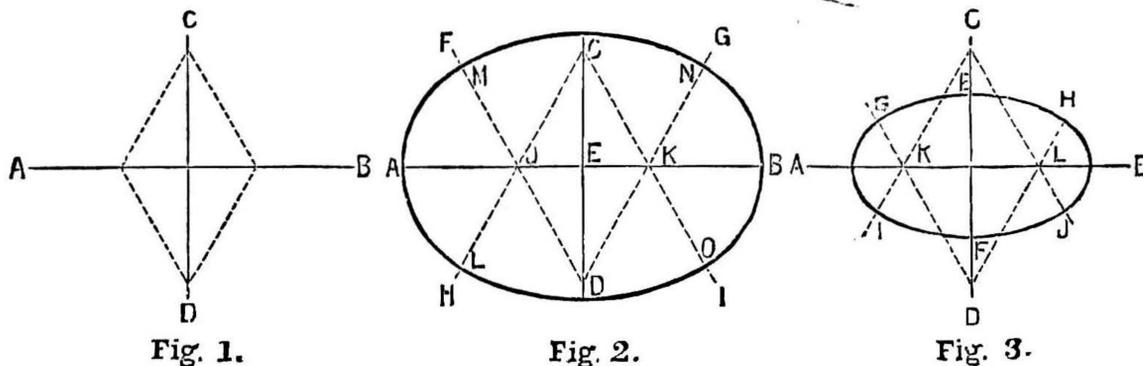

Fig. 1.—Two equal Equilateral Triangles, forming a Rhombus. Fig. 2.—Oval drawn from the Four Points of a Rhombus. Fig. 3.—Another Example.
**Oval Drawing.**—EDDIFRA writes, in reply to OVAL (see p. 446, No. 184):—"An oval is a plane figure, bounded by a continuous line formed by arcs struck from the four points of a rhombus. A rhombus is formed by placing two equal equilateral triangles together, base to base. In Fig. 1 two equal equilateral triangles are drawn, forming a rhombus drawn on the line A B, which is the major axis or greater diameter of the proposed oval, and the line C D, which is the minor axis or smaller diameter of the oval. To describe an oval on any given line which is the major axis of the oval, draw A B the given length, and C D an indefinite length, bisecting line A B at E. Draw rhombus as in Fig. 1, but let the lines C H, C I, D F, and D G be of indefinite length, bisecting line A B. Set compasses to the distance from A to J, or K to B, and, with J and K as centres, strike arcs L A M and N B O, and then set compasses to the distance from D M or D N, and, with C or D as centres, strike the arcs M N and L I, and thus complete the oval. To describe an oval on any given line which is the minor axis of the oval, draw lines A B and C D with rhombus, as in Fig. 2, and on line C D, Fig. 3, mark the required length of minor axis, as E F. Set the compasses to the length from E to D and E to C, and, with C and D as centres, describe the arcs G E H and I F J. Then set them to the distance from G to K or H to L, and, with K and L as centres, describe arcs G I and H J, thus completing oval. It will be noticed that the larger the rhombus drawn, the longer will be the major axis in proportion to the minor axis, as the points K and L, Fig. 3, are placed wider apart than the points I and K in Fig. 2, in proportion to the lengths of the axis majors. Or the distance from I to K in Fig. 2 equals one-third of the length of the line A B, whereas the points K to L equal, in Fig. 3, more than one-half the length of line A B."